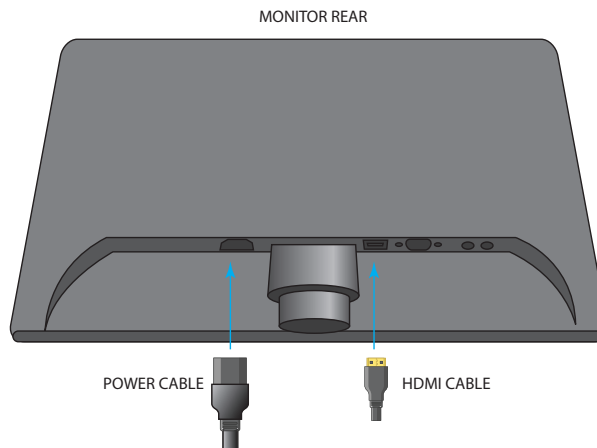

Fig. 3.7
8. Connect the power cable and the HDMI cable to the monitor (see Fig. 3.7). Connect the other end of the power cable to an electrical outlet.